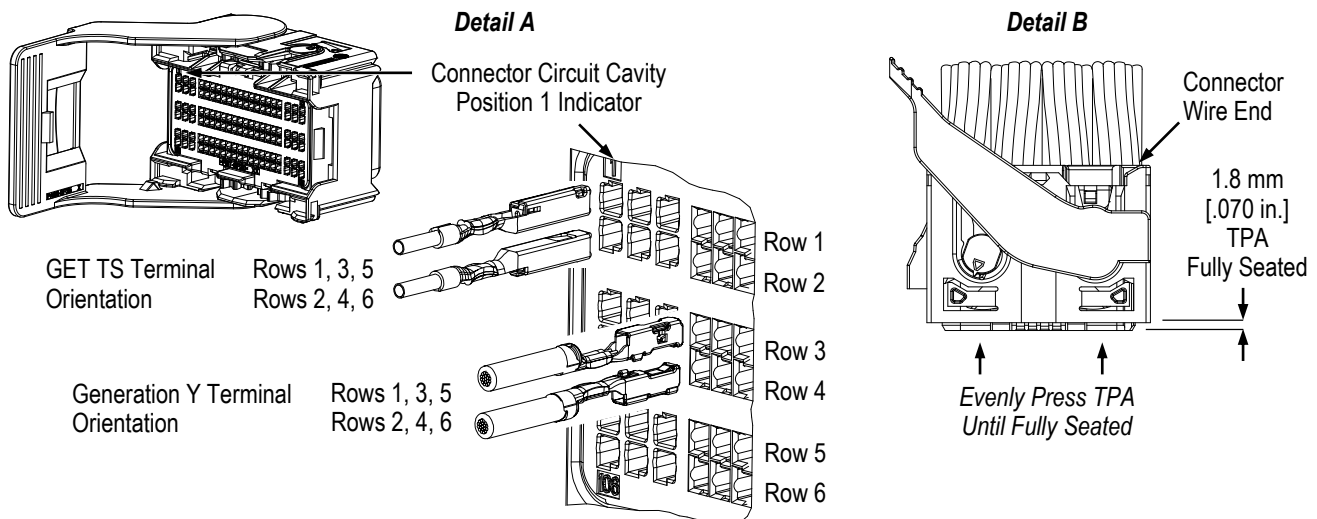

Figure 3
3. Grasp the terminal approximately 20 mm [.78 in.] behind the wire barrel, and align the terminal with the desired circuit cavity of the connector. Refer to Figure 3, Detail A for orientation of each terminal.
6. After all terminals are inserted, hold the connector at the wire end, and evenly press the TPA into the housing to the dimension given in Figure 3, Detail B. There will be an audible click when the TPA is fully seated.